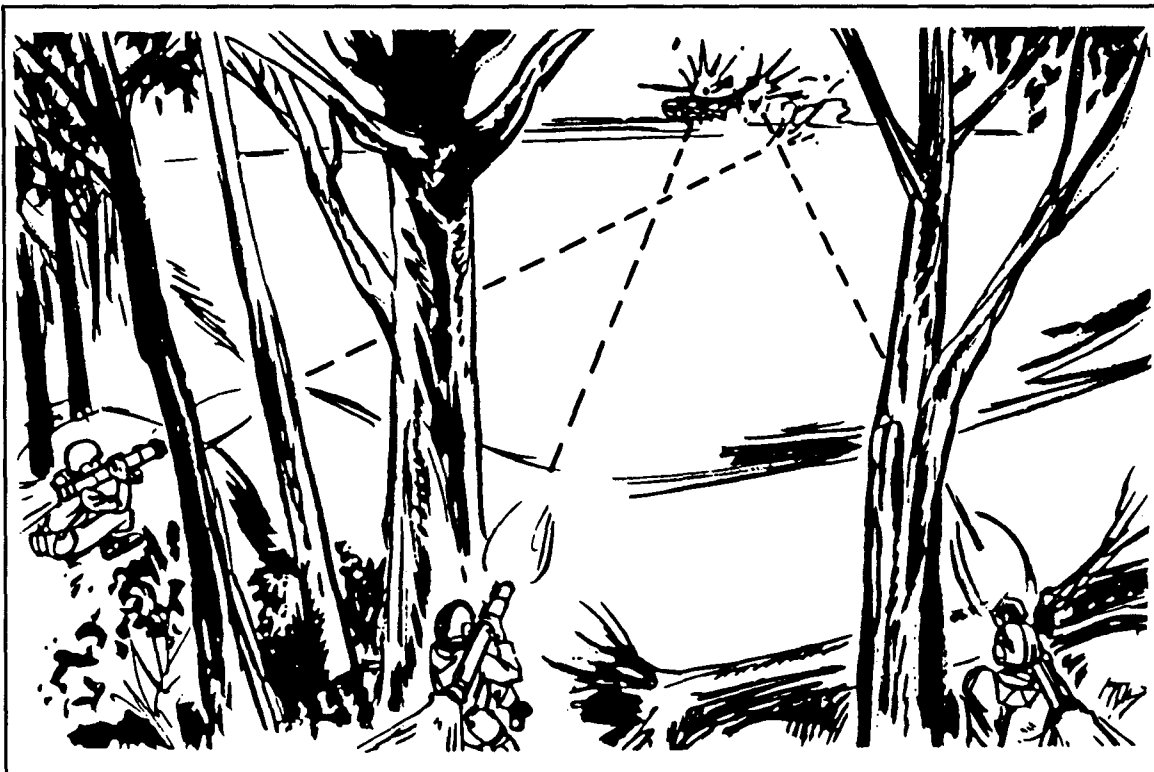

Figure 6-7. Volley firing.
d. **Volley Firing.** When the range to a single target is known, two or more firers engage it at one time on a prearranged signal such as a command, whistle, booby trap, mine, or TRP. This is the best method of engagement with a light antiarmor weapon, because it places the most possible rounds on one target at one time, increasing the possibility of a kill (Figure 6-7).